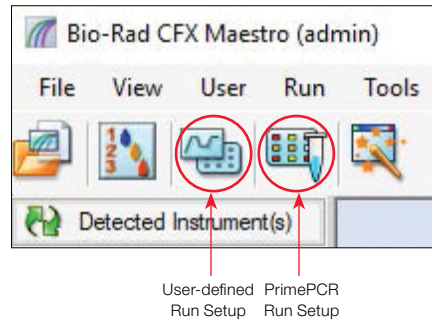

Fig. 9. Main window toolbar.
- On the main window toolbar, click **User-defined Run Setup** or **PrimePCR Run Setup** (Figure 9)